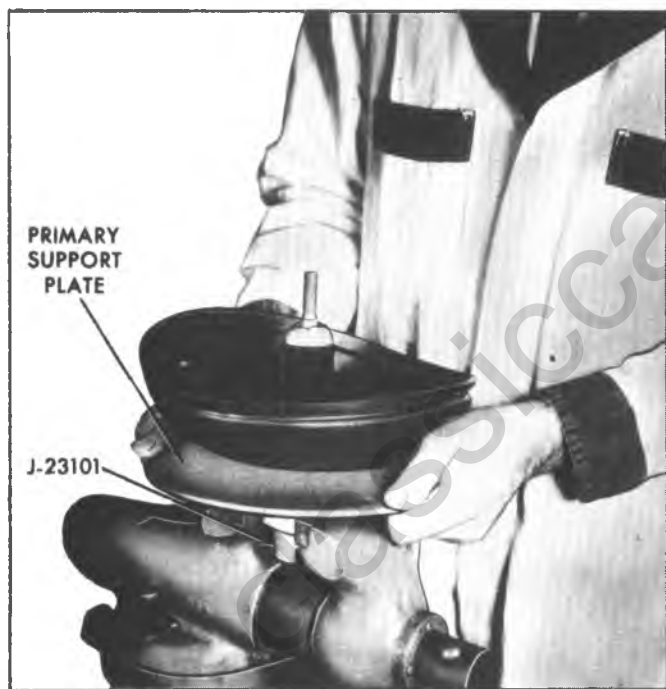

Fig. 9B--Locking or Unlocking Primary Support Plate From Primary Power Piston
11. Fold back primary diaphragm from the support plate. Grip the edge of the support plate and rotate in a counterclockwise direction to unlock the primary support plate from the primary power piston (fig. 9B).
- Grip the edges of the primary support plate, press down, and rotate clockwise until the tabs on the primary power piston contact the stops on the support plate (fig. 9B).